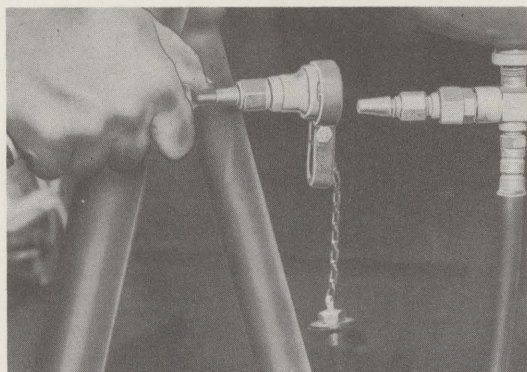

Figure 16 - Oxygen Regulator in Use
b. **REGULATORS.** - A type A-12 demand regulator and an indicator panel are located at each crew station. (See figure 16 for operation.) Each power turret system is equipped with an A-9 constant-flow regulator.